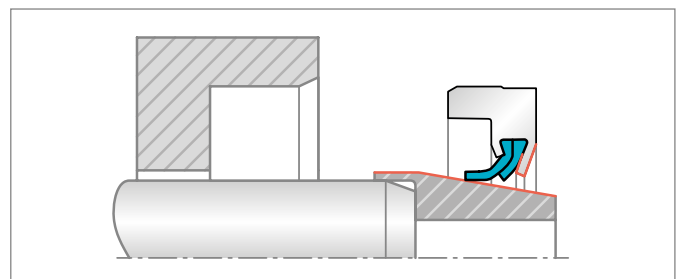

Figure 117: Ensure there is sufficient clearance between the support leg and the assembly cone
- Be aware that the extended metal pressure support behind the lip arrangement of the Type C design has a close clearance to the shaft (Figure 117). It is advised that the inside diameter of this support is measured before manufacturing the assembly cone to ensure that there is sufficient clearance.